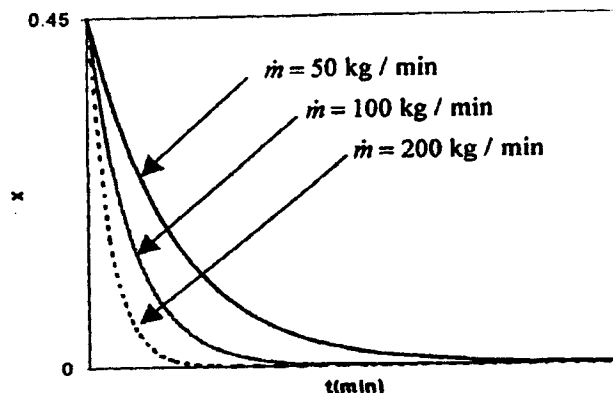

Figure Q.6.
- [iii] Refer Figure Q. 6., data for  $\dot{m} = 50$  kg/min, 100 kg/min and 200 kg/min are plotted. Discuss the results shown in the figure in light of part [ii].